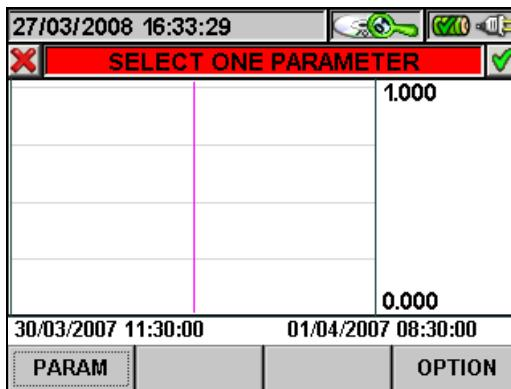

Fig. 90: Selecting a parameter
- The **ESC** key (or smart icon  to exit the function and go back to the "Selecting a parameter" page (Fig. 90).
- The **ESC** key (or smart icon ) to exit the function and go back to the “Selecting a parameter” page (Fig. 90).
3. Press the **ESC** key (or the smart icon ) to exit the function and go back to the "Selecting a parameter" page (Fig. 90).